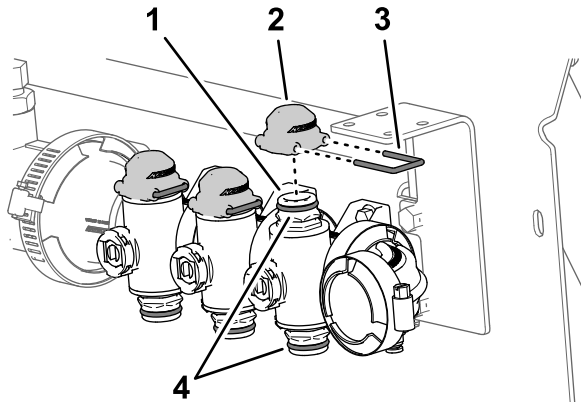

Figure 50
- Lubricate the upper and lower O-rings on the quick coupler of the manifold valve with the grease provided with the quick-coupler cap (Figure 50).
- Assemble the 3 caps for the quick couplers onto the 3 quick couplers for the manifold valves (Figure 50).
- Secure the 3 caps to the 3 quick couplers with the 3 retainers (Figure 50).